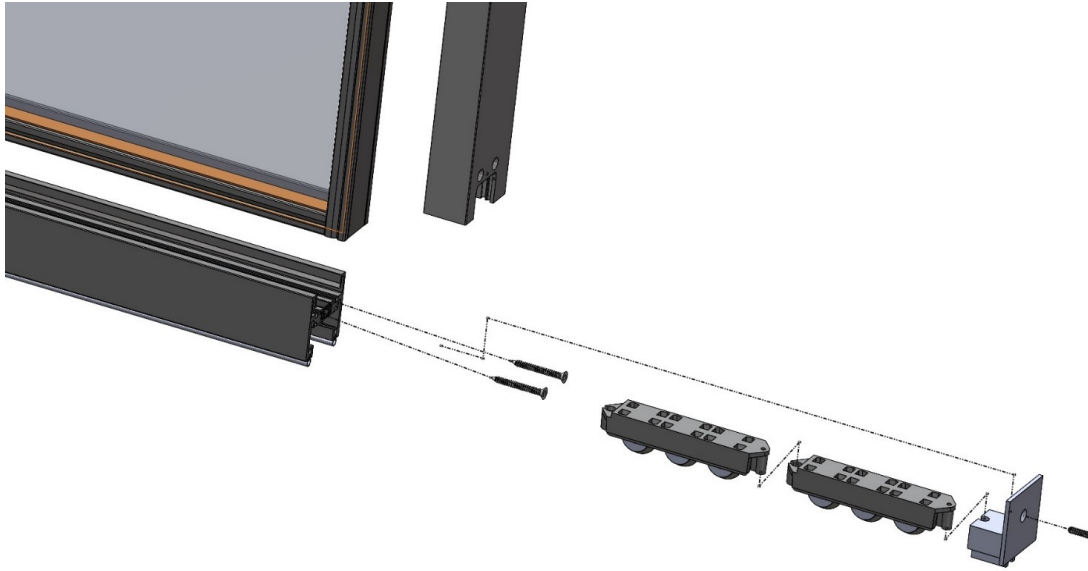

Figure 9
7. If needed and for adjustment, the roller assembly can be shimmed individually or per side with supplied shim stacks. Each shim is .015" thick and up to three (3) roller shims per roller assembly can be used. Once the roller assembly is set into the panel, continue with the opposite side.
10. Identify the roller assembly and connect by sliding one (1) roller assembly onto the other. Repeat this step for all required rollers. Once all rollers are installed, slide the end sweep onto the roller assembly and set roller assemblies in front of panel.
11. Taking care not to scratch or shift the lead panel over. With a pry bar, lift the panel high enough to slide the roller assembly system into place. Ensure that all rollers rest onto the track cap and roll freely. (See Figure 9)